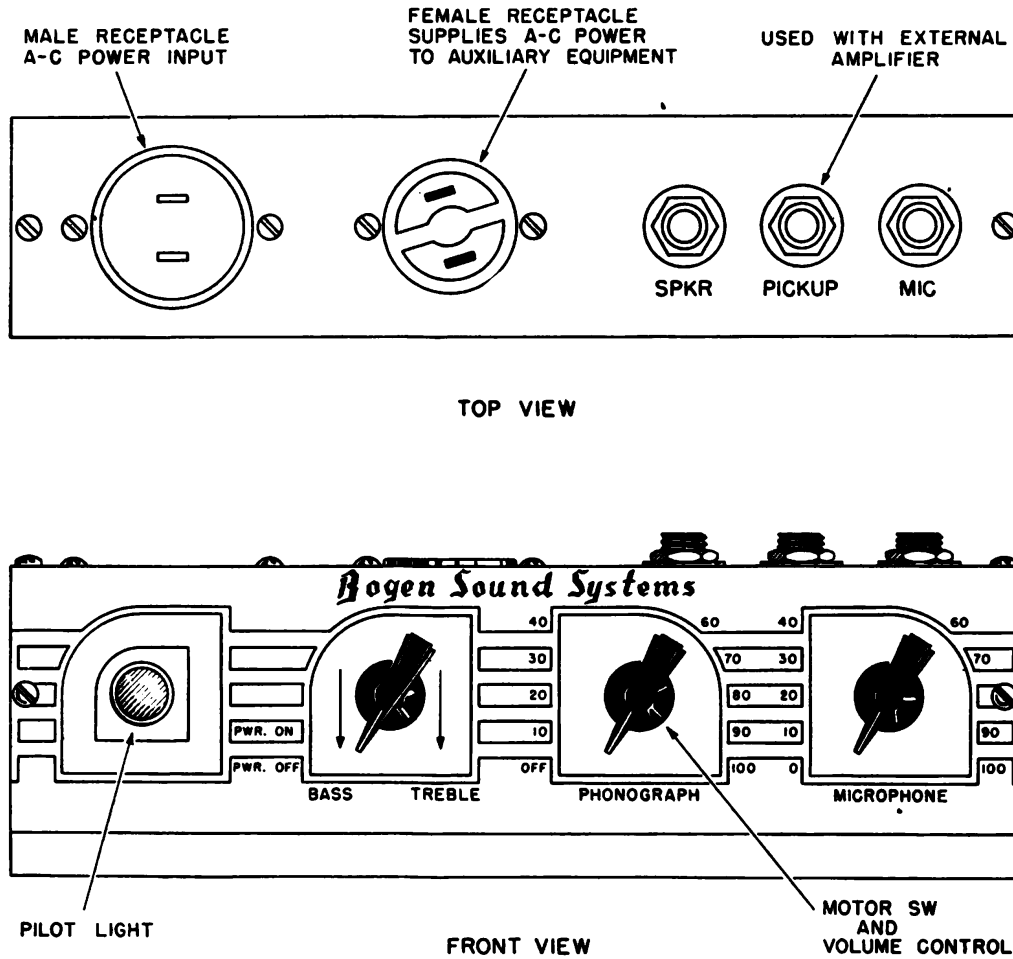
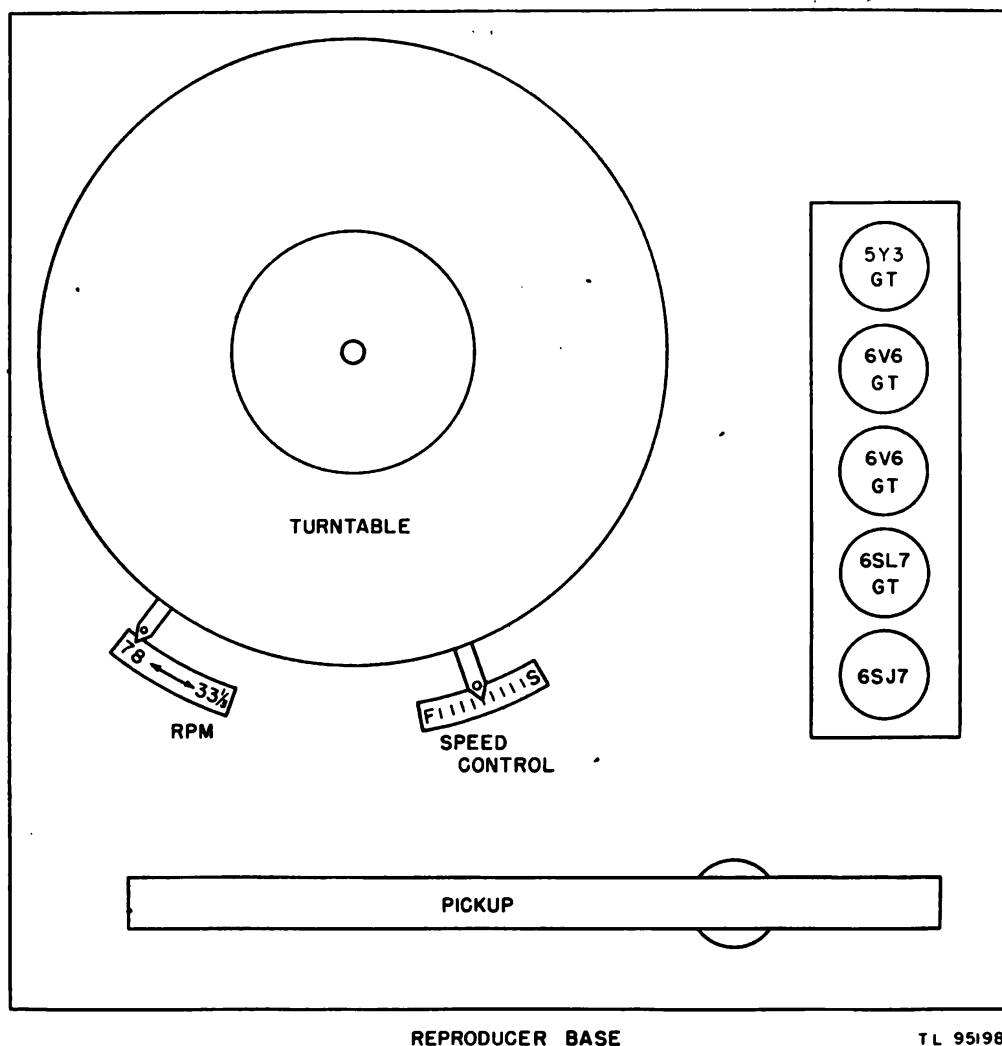

Figure 6. Top and front view of reproducer control panel.
Figure 7. Top view of reproducer amplifier unit.
The amplifier is provided with three controls for operation as a public address system or as a record player (fig. 6).
The turntable motor is provided with two controls in the form of levers extending out from under the turntable (fig. 7).
- (1) Turn the left-hand control marked POWER ON-POWER OFF all the way to the right (fig. 6). This supplies power to the amplifier.
- (2) Turn the center control marked PHONOGRAPH to the right to an approximate midway position on the dial (fig. 6).
- (3) Allow 30 seconds for the amplifier to warm up, then rub the ball of thumb across the needle in the pick-up arm until a clicking sound is heard in the speaker.
- (4) Determine the recording speed of the record to be used by examining the title plate of the record. There will be an indication on the title plate as to whether the recording speed was $33\frac{1}{3}$ or 78 revolutions per minute.
- (5) Move the lever controlling the speed to the proper speed of the recording (fig. 7). *This must be done while the motor is running.*
- (6) Set the speed regulator lever at the center line of the plate (fig. 7).
- (7) Place the record on the turntable.
- (8) Release the pick-up from its holding bracket by loosening the holding nut and lower the pick-up gently until its needle enters the starting groove
(9) Adjust the PHONOGRAPH control until the proper volume is attained for the area to be covered (fig. 6).
(10) Move the POWER ON-POWER OFF-BASS-TREBLE control slowly to suppress surface noise on worn records or to reduce emphasis on high frequencies (fig. 6).
(1) Turn POWER ON-POWER OFF control all the way to the right (fig. 6).
(2) The PHONOGRAPH control should be returned to its OFF position (fig. 6).
(3) Adjust MICROPHONE control for the desired volume and speak into the microphone (fig. 6).
c. Superimposing Speech on Recorded Background. (1) To superimpose speech on recorded background follow procedure given in subparagraph *a* (1) through (10) above.
(2) Reduce volume by turning PHONOGRAPH control slightly to the left (fig. 6).
(3) Turn MICROPHONE control until the desired volume is obtained and speak into the microphone (fig. 6).
b. Inspect (I). (1) Inspect the motor for discoloration, indication of overheating, and for dirt, dust, fungus, and mildew.
(2) Test any connections and mounting bolts which appear to be loose.
c. Tighten (T). Tighten loose connections and mounting bolts.
d. Clean (C). Remove all dust, dirt, lint, and oil from the motor. Use a clean, dry, lint-free cloth. Remove any accumulation of oil from around the three oil holes.
e. Adjust (A). The speed regulator lever allows 5 percent variation above or below the nominal speed. Nominal speed is attained when the lever pointer is centered over the center line of the plate (fig. 7).